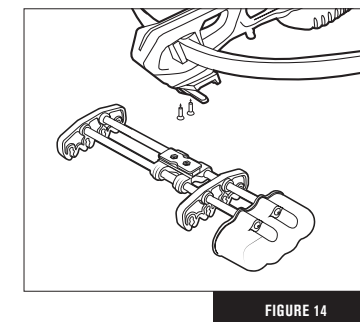

FIGURE 14
1. Screw quiver mount onto the bottom of the stock (Fig 14).